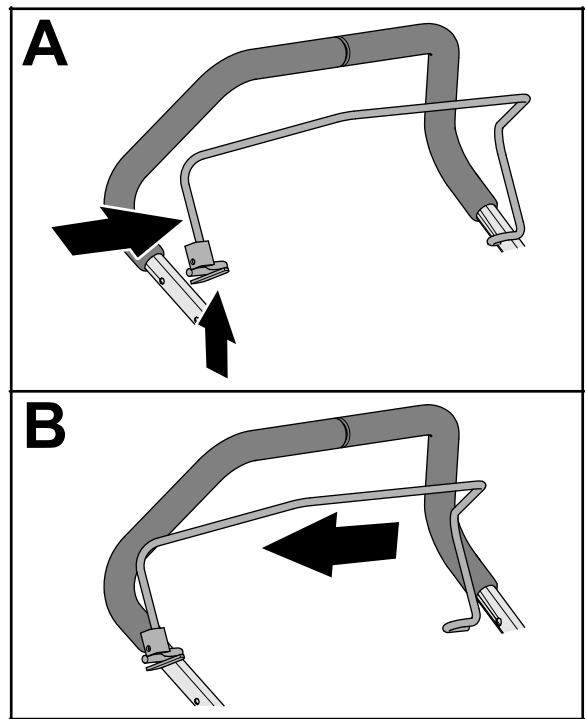

**Figure 9**
1. Squeeze the leg of the operator-presence bail until you can remove it from the upper handlebar, and remove the bail from the machine (Figure 9).